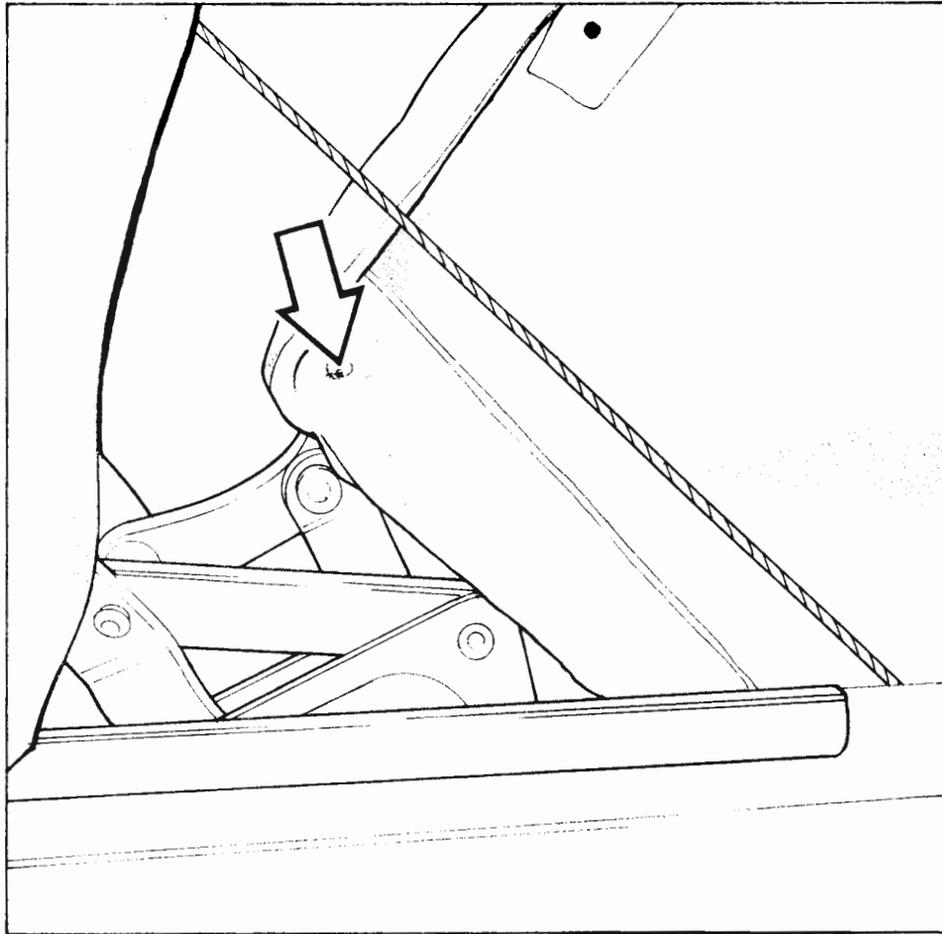

Fig. P11B
5. Apply rubber solution to the outer lower edge of the rear bow and the corresponding area on the inside of the rear headlining. Attach the headlining at each side of the lower bow, ensuring that the tension wire is located outside the headlining. See fig. P11B. Fold the corner of the headlining back at an angle of 45° and trim off leaving an overlap of approximately 1in (25 mm) and retain with adhesive